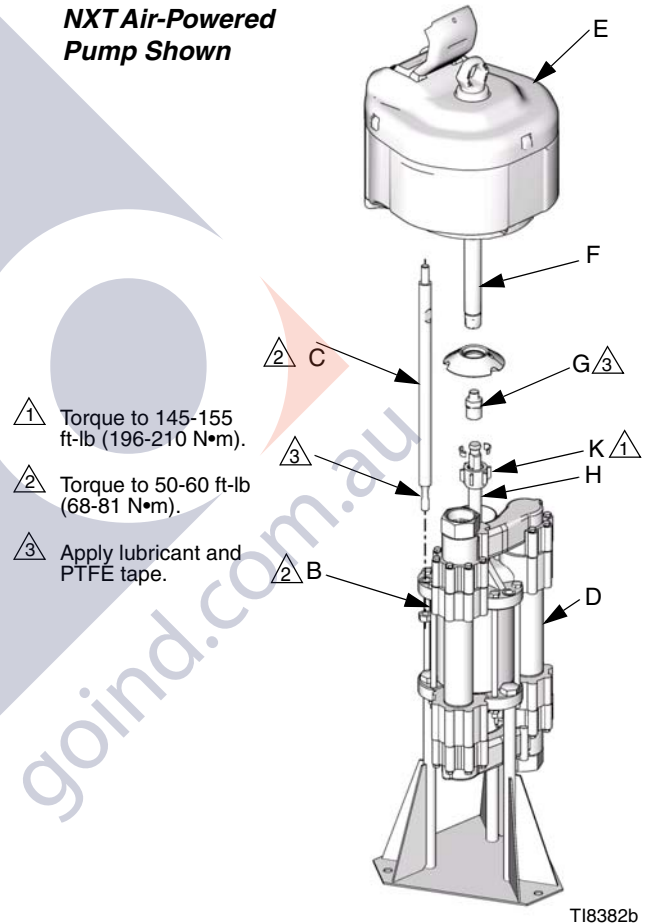
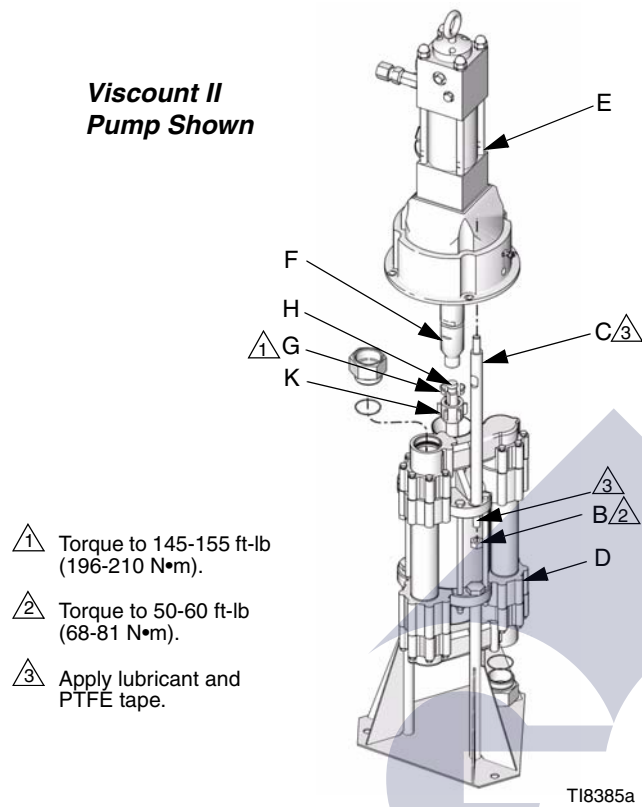

FIG. 6
FIG. 7
3. Unscrew the coupling nut (K) from the motor shaft (F) and remove the collars (G). Remove the coupling nut from the piston rod (H). Unscrew the locknuts (B) from the tie rods (C). Pull the motor (E) off the lower (D). See FIG. 6 and FIG. 7.